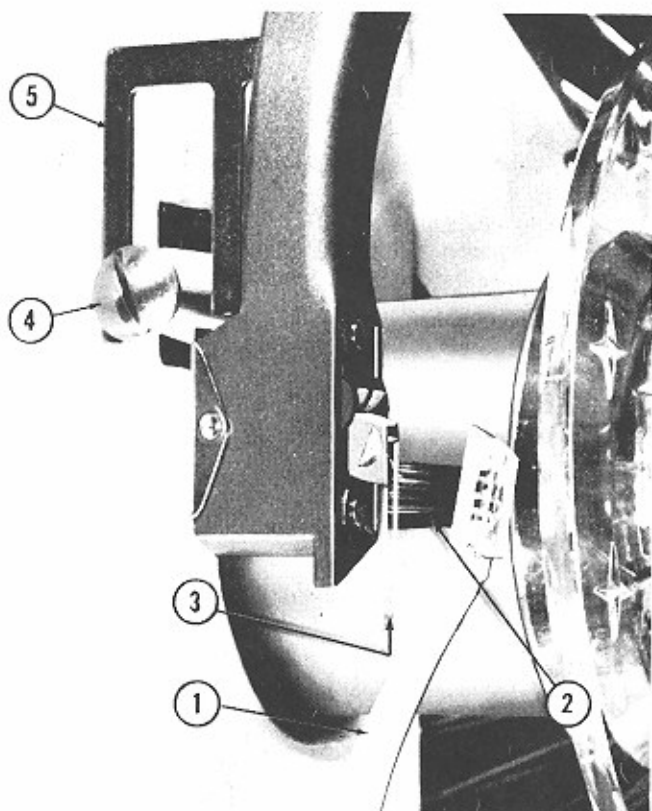

Fig. 89. TONE ARM BRUSH SETTING
ad. Tone Arm Brush Setting. (Figs. 89 and 90)
(1) This procedure should start with the record changer in its normal "at rest" position and the tone arm should be latched in the recess in the "feed-in adjusting screw".
(2) Set the "brush holder arm" (Item 1, Fig. 89) so that when the arm is actuated, the bristles of the brush will sweep across the needle at a depth of not more than 1/16" beyond the needle point, as shown in Item 3, Figure 89.